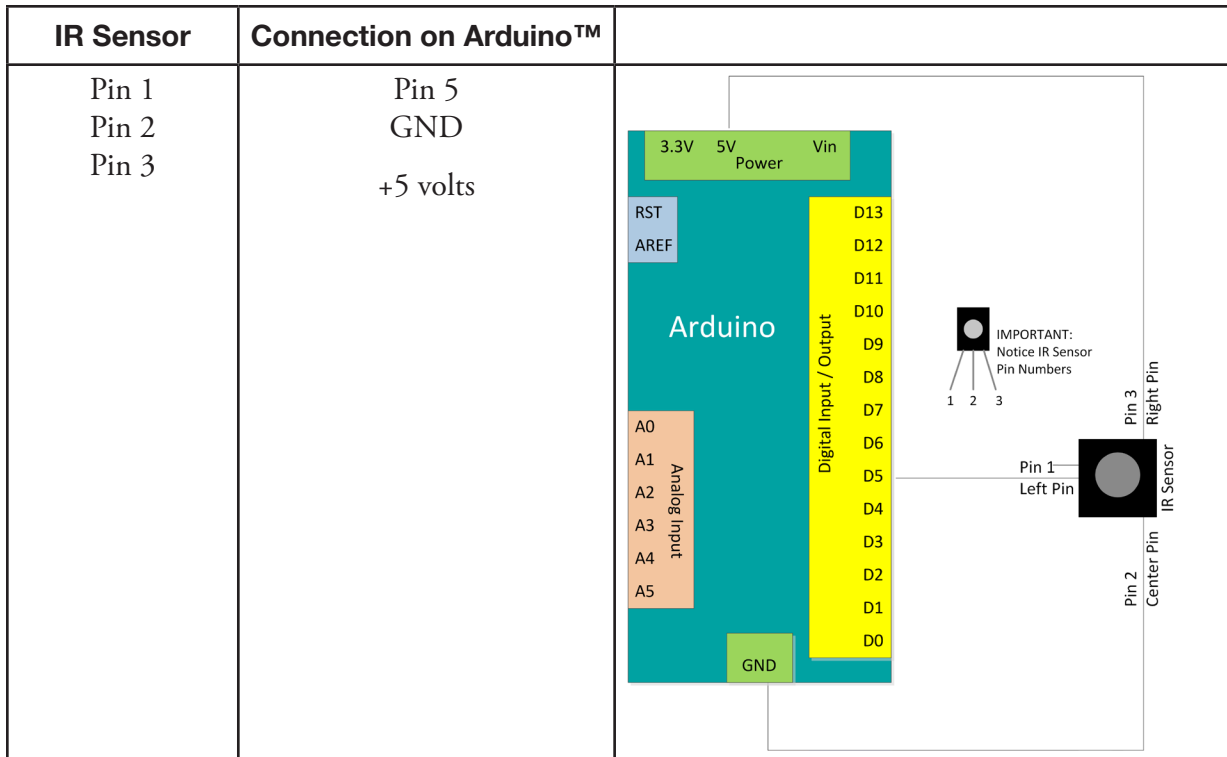

Figure 16-5. Schematic of connection between IR sensor and Arduino™
1. Connect an infrared sensor to an Arduino™ as shown in Figure 16-5.